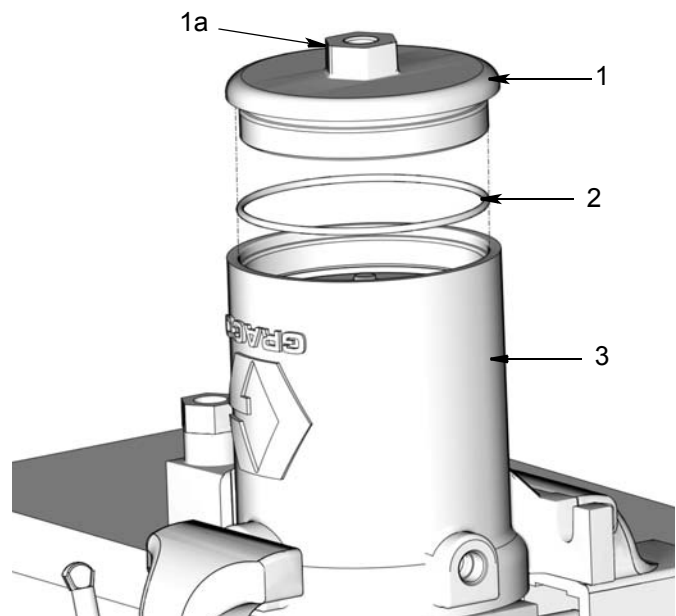

FIG. 35
10. Apply a thin layer of grease to the cover o-ring (2). Install o-ring to cover (1) (FIG. 35).
11. Install cover in bottom of air motor cylinder (3). Apply pressure with your hand to help seat the cover and compress the spring. Use a wrench on nut (1a) to turn and tighten the cover securely then torque to 28 to 32 ft. lbs. (37.9 to 43.4 N.m) FIG. 35.